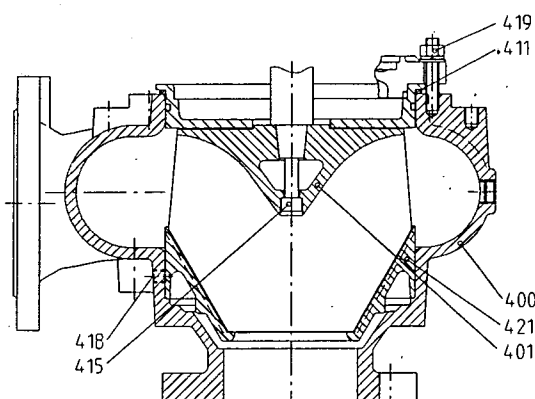

Fig. 5: D03K / D04K
These pumps have a non-adjustable liner (421) held in a fixed position inside a one-piece volute casing. It can be pressed out of the casing after loosening of fastening set (418) (Fig. 5).
3.4.3 ASSEMBLY OF LINER OR SUCTION COVER**a) For D03K / D04K (Fig. 5)**